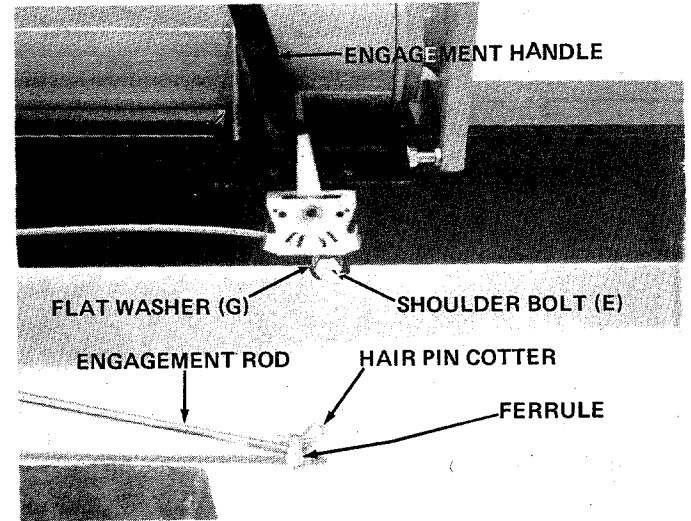

FIGURE 5
6. Secure engagement handle to beam with shoulder bolt (F) and flat washer (G). See figure 5.
8. Secure engagement rod to engagement handle with hair pin cotter. See figure 5.